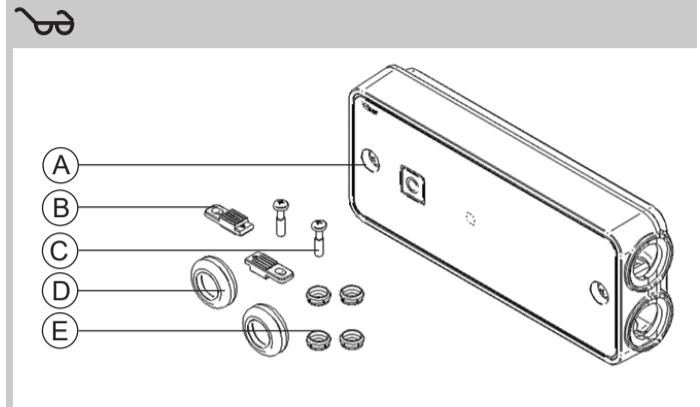

Fig. 1 - Install position
1. The Electrical Heat Switch must be installed below or to the side of any heat source. – Fig. 1